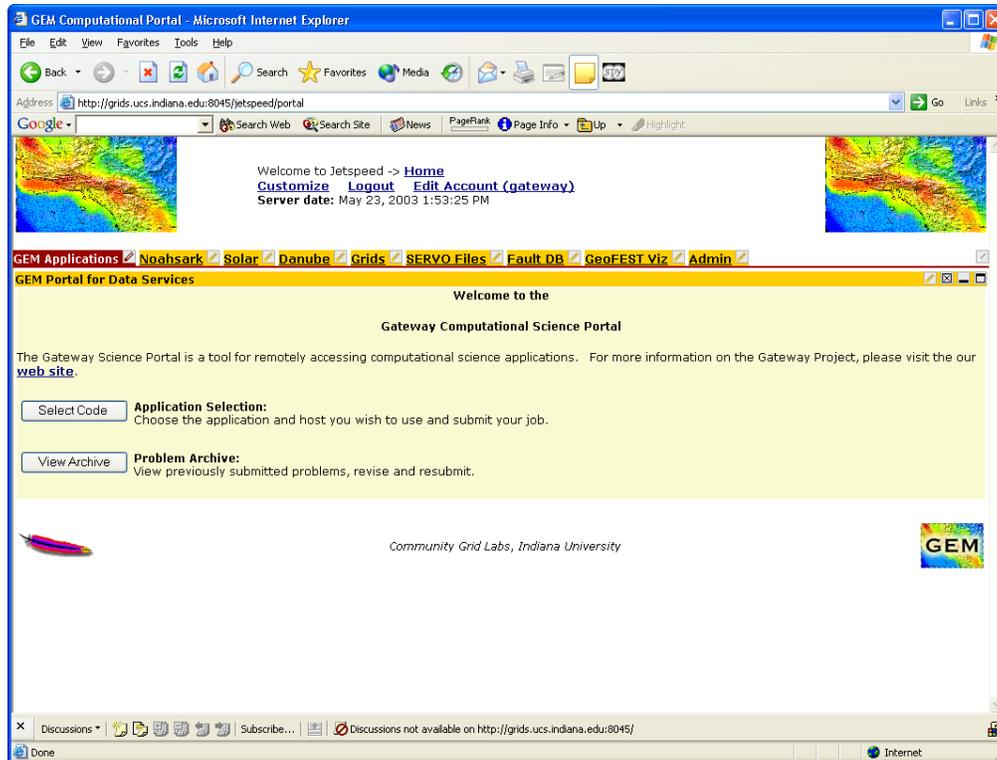

Figure 3 First page after login
2. Log in with a valid username/password (see “preliminaries” section, this document). You should see the screen in Figure 3.
The submenu, Open Existing Project, allows the user to continue working on a project that has been defined/constructed previously. Click on the Open Existing Project, a window similar to Figure 3 will pop up on the screen. It includes all the files in the current working directory, and the user will need to select the project that he/she wants to work on. Note that, the project file is always end with an extension of .grp (group file).